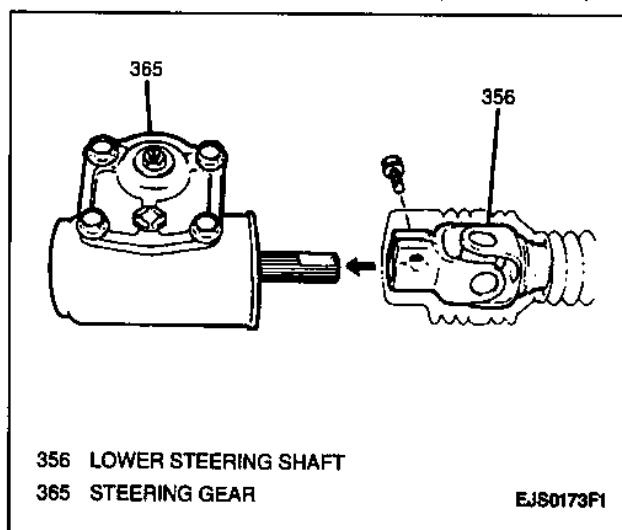

Figure 21—Aligning Lower Shaft and Steering Gear
1. Lower shaft to steering gear, aligning flat on steering gear shaft and lower shaft (Figure 21).